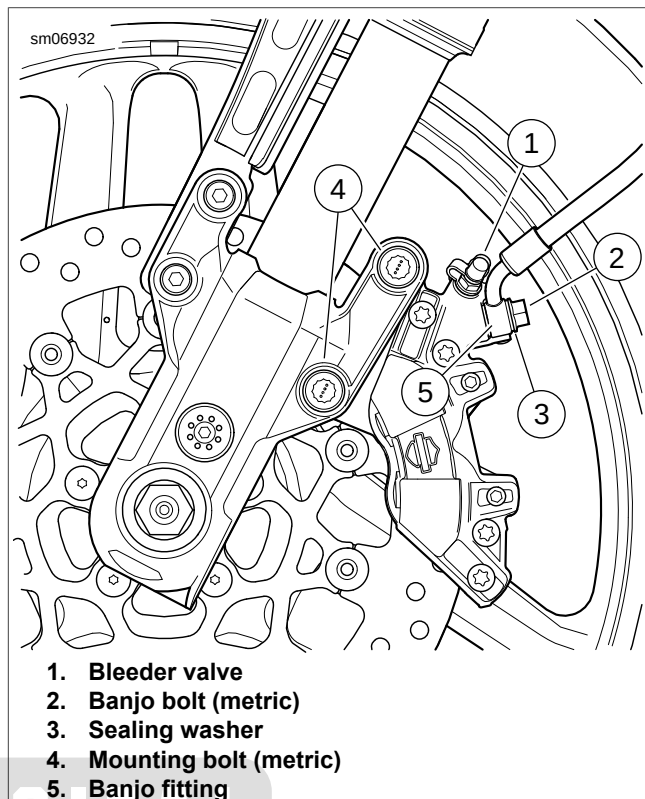

Figure 2-75. Front Caliper Assembly: XR 1200X
1. See Figure 2-75. Remove bleeder nipple cap from bleeder valve (1) on front brake caliper.
3. See Figure 2-75. Remove the banjo bolt (2) (metric) and both washers (3) to detach front brake line from caliper. Discard washers.
4. Remove both mounting bolts (4) (metric). Pull caliper assembly rearward to remove from brake disc.